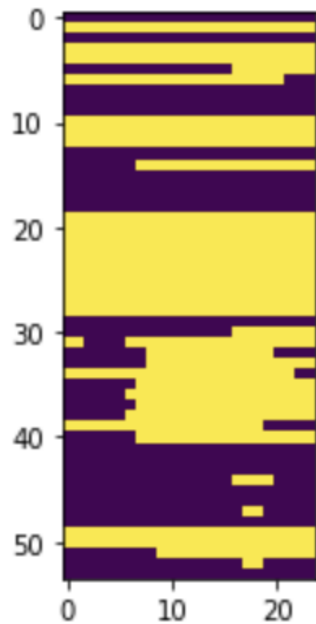

Figure 4: Plotted  $\mathbf{u}$  matrix
**Solution:** The plots for matrices **u**, **v** and **w** can be observed in **Figures 4, 5 and 6**. The yellow lines in the image for matrix **u** show the generators that are being